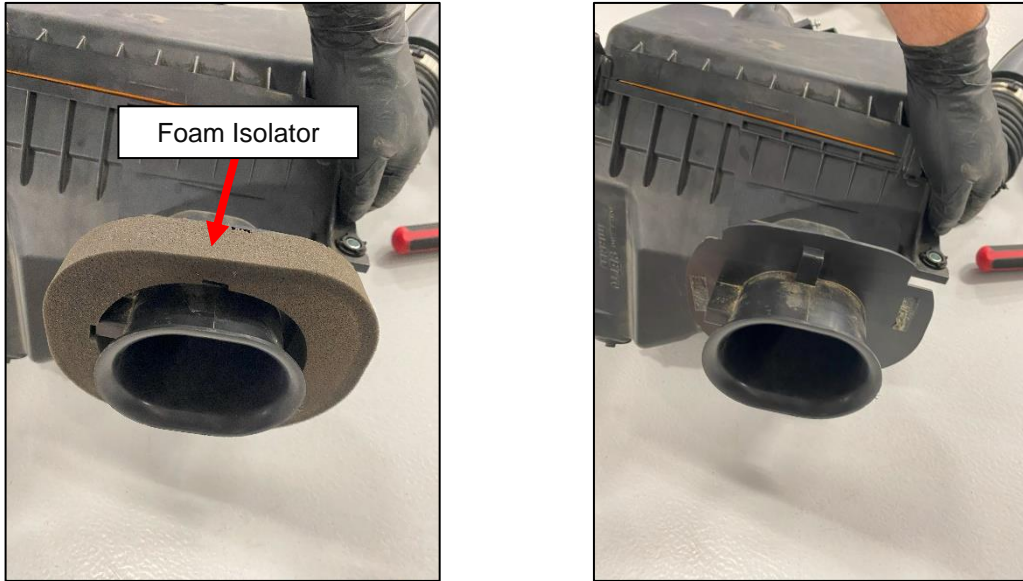

Figure 17
29. Locate the OE Airbox. Remove the Foam Isolator from the flanged section of the Airbox. *Figure 17.*